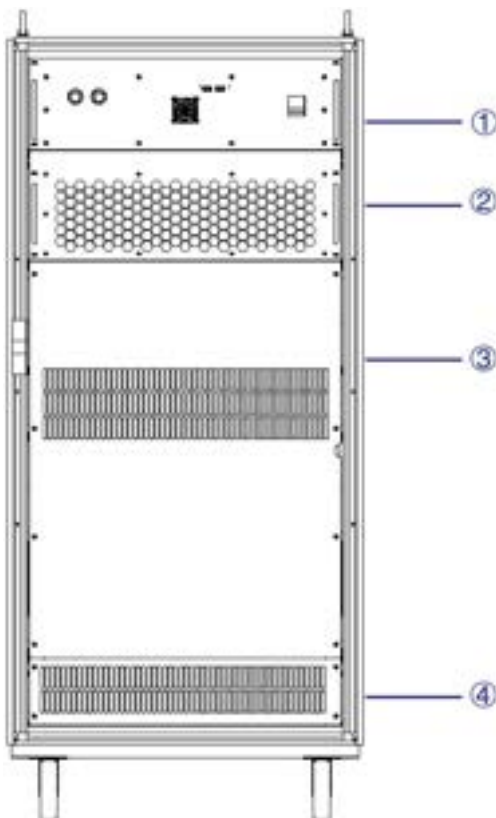

Figure 1-4 Internal structure
①	RS485 interface	Standard configuration, RS485 interface is used for remote control.
②	LAN interface	Standard configuration, LAN interface is communication interface and used for remote control.
③	ATI interface	Optional, analog control interface (-ATI option)
④	Product brand	The input / output configuration of the product is marked.
As shown in Figure 1-4, take LAB / LAB / SLV1-400-125 as an example, from top to bottom, the internal modules of LAB/SLV1 series are: ① control box layer, ② module layer, ③ input and output component layer, ④ wiring layer and the other interface layer.